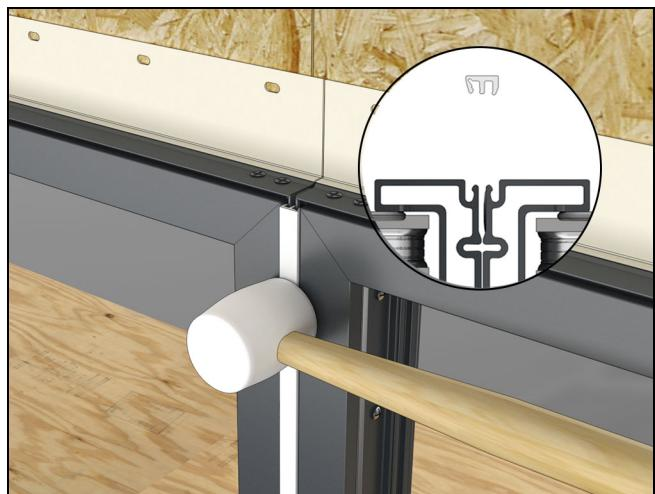

Figure 31
3. Apply the exterior covers. These can be seated with a rubber mallet. Make sure the covers are flush to the exterior accessory kerf. See Figure 31.